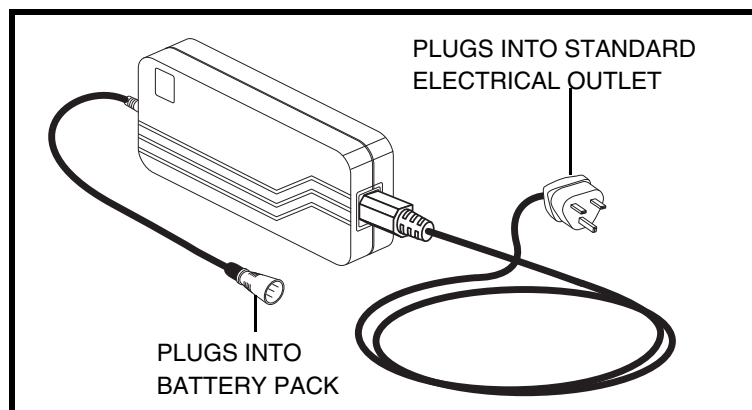

Figure 9. Off-board Battery Charger
The off-board battery charger, when plugged into the charger power lead receptacle (located on the battery pack) and a standard electrical outlet, charges the Travel Scooter’s batteries. See **figure 9**.
**NOTE:** *The LED lights on the charger indicate different charger conditions at various times. See figure 9. Refer to the operating instructions supplied with the charger for a complete explanation of these indicators.*